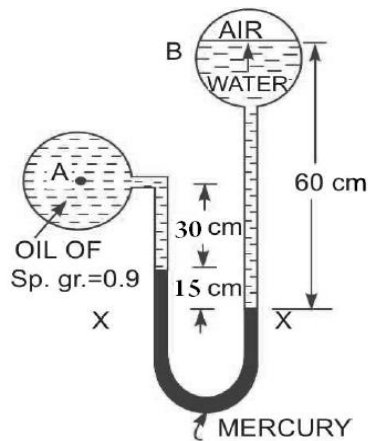

Fig. 1
- 11a. Two points A and B are connected with a differential manometer as shown in figure 1. Air pressure at point B is  $8.87 \text{ N/cm}^2(\text{abs})$ , find the absolute pressure at A. (6)